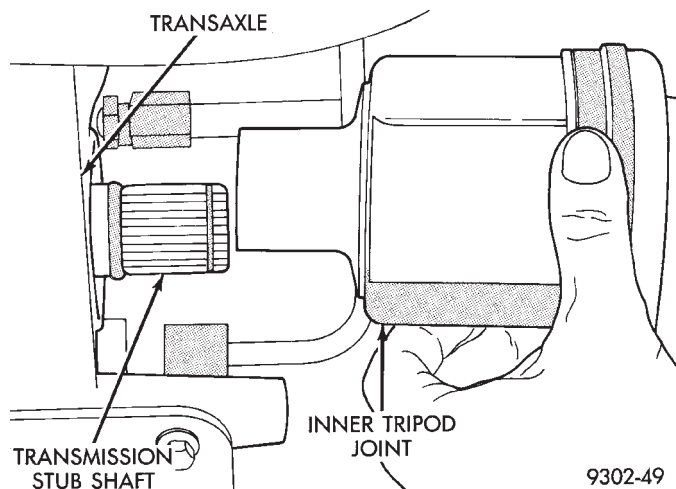

Fig. 8 Inner Tripod Joint Removal From Stub Shaft
(11) Remove drive shaft inner tripod joint from transaxle stub shaft. **When removing drive shaft, do not pull on interconnecting shaft to remove inner tripod joint from stub shaft. Removal in this manner will separate the spider assembly from the tripod joint housing. Grasp inner tripod joint (Fig. 8) and interconnecting shaft and pull on both pieces at the same time.**